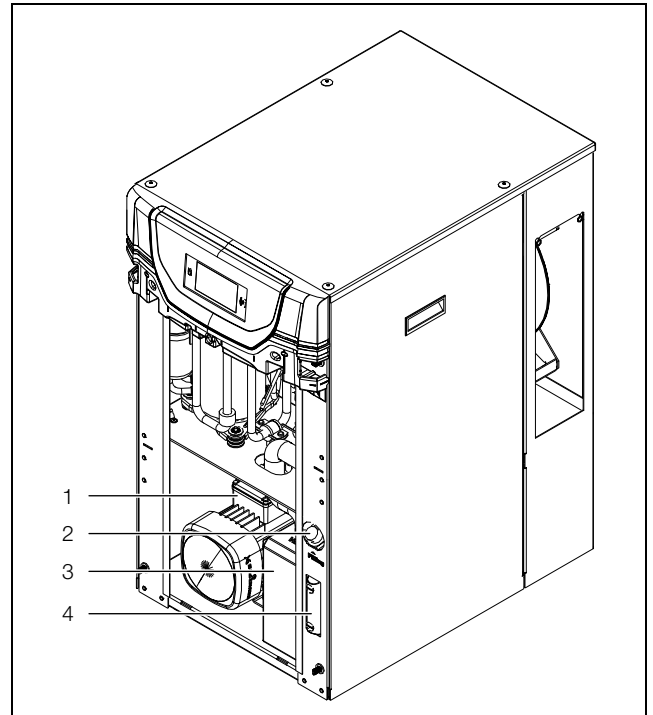

Fig. 41: Filling the cooling medium
- Fill the chiller tank with cooling medium via the fill nozzle (fig. 41, item 2).
- Check the fill level on the inspection glass (fig. 41, item 4).